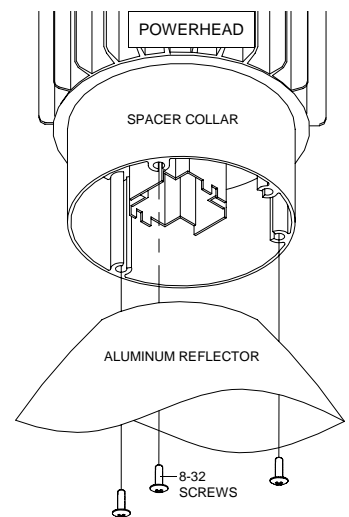

Fig. 2
2. Align holes in ALUMINUM REFLECTOR with threaded holes in SPACER COLLAR. (Fig. 2)